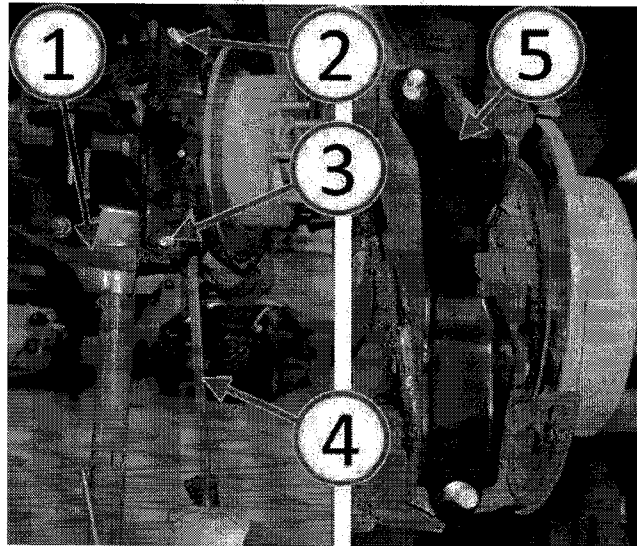

Fig. 2 Install Anti-Vibration Bracket
WARNING:To prevent personal injury and vehicle damage, use a suitable stand (1) to properly support suspension components while replacing the bolts (2 and 3) securing the control arms to the trailing link (Fig. 2).
6. Remove and discard the bolt (2) securing the upper control arm to the trailing link (Fig. 2). Install the **NEW** bolt included with the anti-vibration bracket service kit.
NOTE: It may be helpful to use a pry bar (4) to align the bolt holes in the lower control arm and the trailing link (Fig. 2).
7. Remove and discard the bolt (3) securing the lower control arm to the trailing link (Fig. 2). Install the **NEW** bolt included with the anti-vibration bracket service kit.
8. Install the anti-vibration bracket (5) to the upper and lower control arm bolts (Fig. 2).